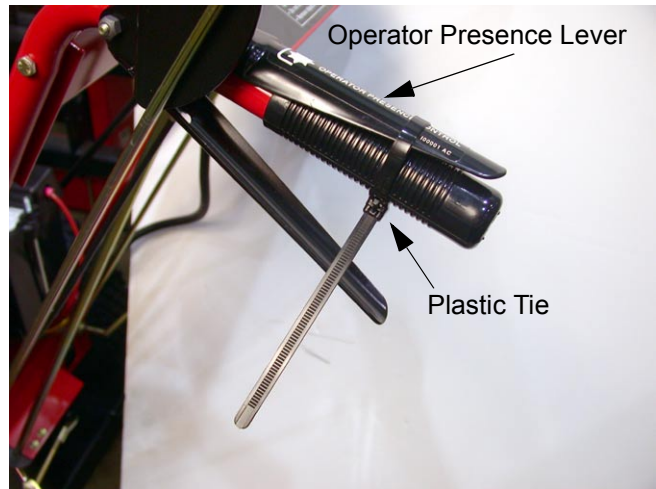

Figure 19
- 6.2. Secure the operator presence control lever to the left handlebar using a plastic tie or tape. See Figure 19.